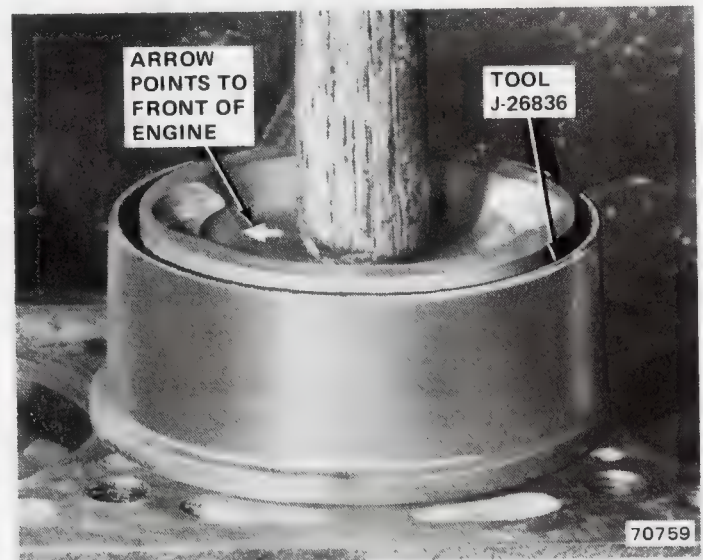

Fig. 1B-42 Piston Installation
- (1) Clean cylinder bores thoroughly. Apply light film of clean engine oil to bores with clean, lint-free cloth.
- (2) Position piston rings on pistons. Refer to Piston Rings for installation procedure.
- (3) Lubricate piston and rings with clean engine oil.
- (4) Use Piston Installer J-26836 to install connecting rod and piston assemblies through top of cylinder bores (fig. 1B-42). Arrow on piston top faces forward.
- (5) Install connecting rod bearing caps and inserts. Observe cylinder number markings made earlier. Also observe projections on connecting rod and cap. These projections must face front of engine (fig. 1B-43).